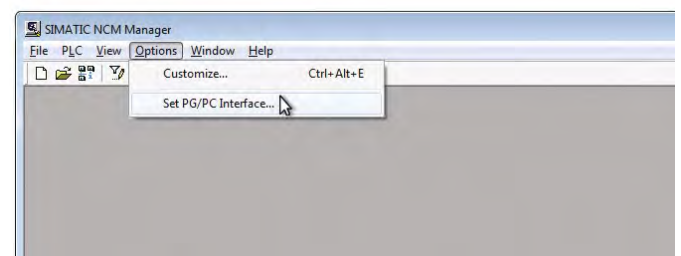

Fig. 44: Set PG/PC Interface (source: Siemens)
1. Select "Options" → "Set PG/PC Interface" (Fig. 44):